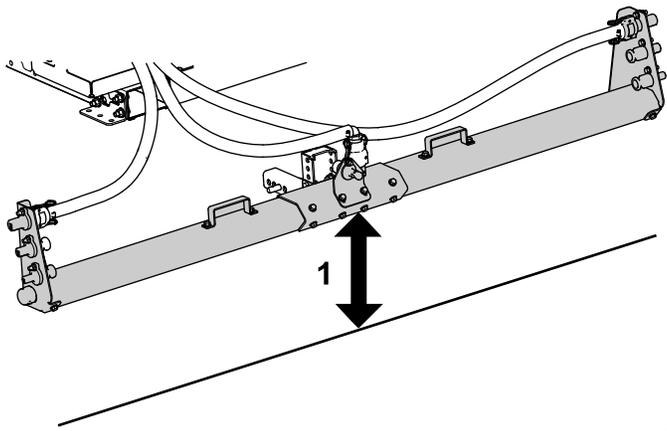

Figure 22
- 2. When the machine is installed on the vehicle, ensure that the distance between the bottom of the boom shroud to the ground is 51 to 71 cm (20 to 28 inches). Adjust if necessary. Refer to Figure 22.